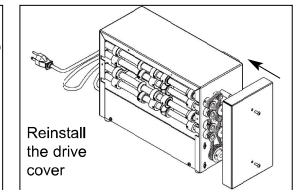

Figure 14
14. Reinstall the Drive cover. Fig. 14